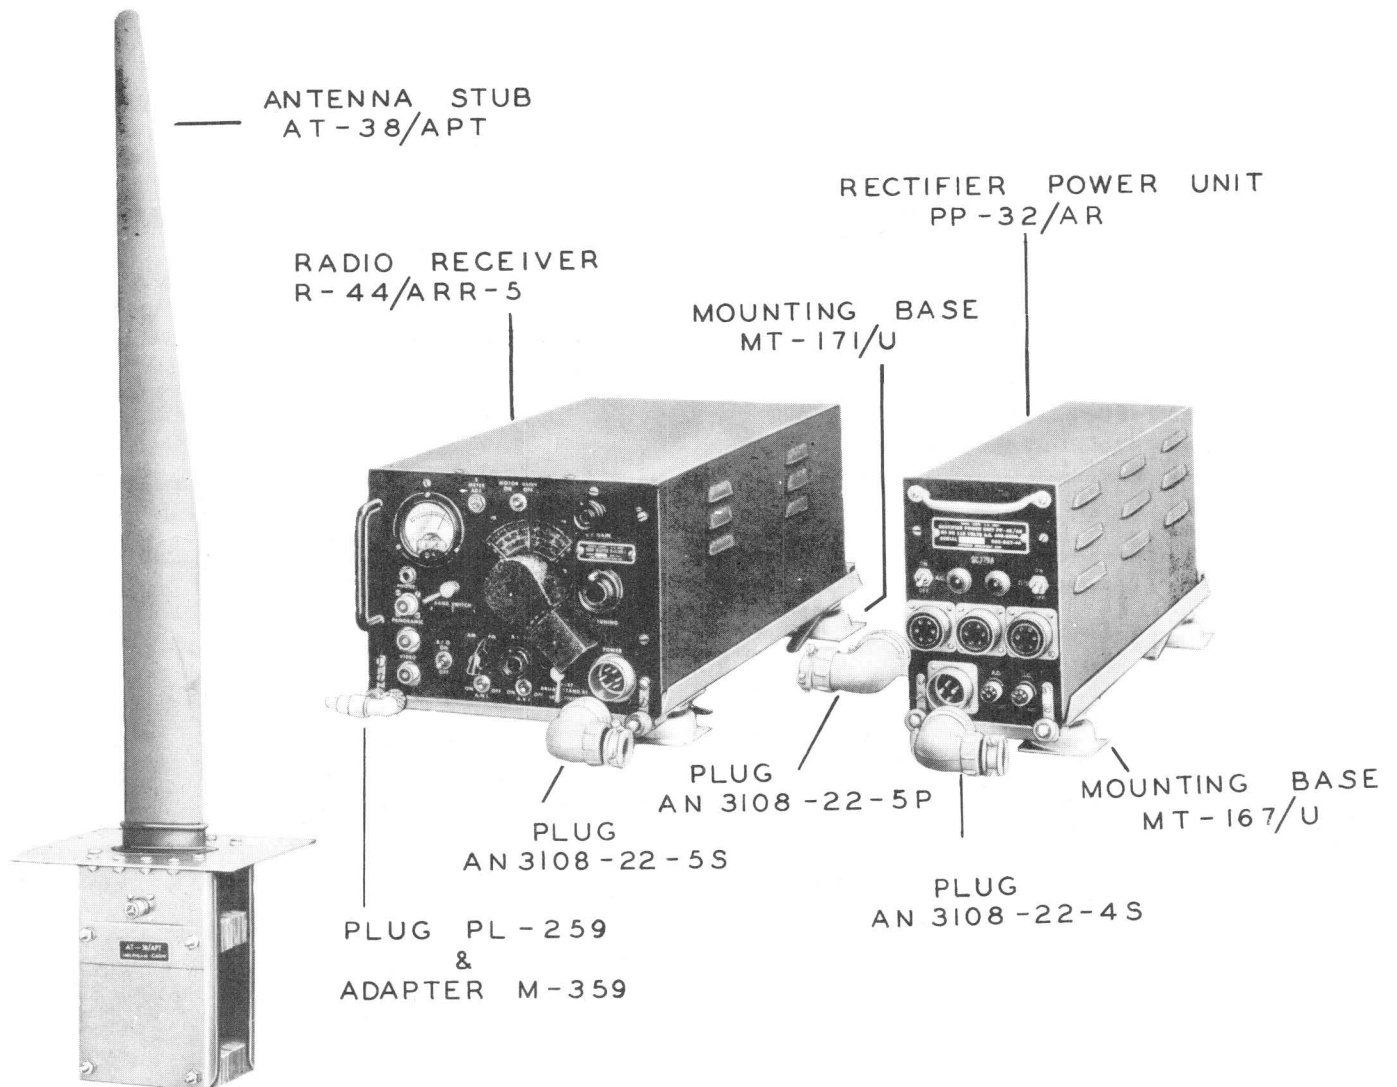

Figure 1-1. Radio Receiving Set AN/ARR-5—Major Components
a. Radio Receiving Set AN/ARR-5 (fig. 1-1) is an airborne search receiver intended to locate enemy radar radio frequency channels and communications equipment operating in the frequency range 27.8 to 143 megacycles. It may operate in conjunction with Radar Indicator Assembly AN/APA-6 or AN/APA-11, Panoramic Adapter AN/APA-10, and Photographic Adapter AN/APA-7.
e. Radio Receiving Set AN/ARR-5 consists of the following major units (see fig. 1-1):
(1) Radio Receiver R-44/ARR-5.
(2) Mounting Base MT-171/U, which provides mounting facilities for the receiver.
(3) Rectifier Power Unit PP-32/AR, which supplies the necessary power for the receiver and can supply power to two additional receivers with approximately the same power requirements.
(4) Mounting Base MT-167/U, which provides a mounting for the rectifier power unit.
(5) Antenna Stub AT-38/APT or (Antenna Stub AT-38A/APT). The type of antenna used is not critical; any antenna approximately 30 inches in length is satisfactory.
(6) Antenna AT-190A/AP, which is 25 inches in length.
(7) Antenna Base AB-109B/AP, which is provided for mounting Antenna AT-190A/AP.
(8) Antenna Adapter MX-923/A, which is mounted on Antenna Base AB-109B/AP, and provides a termination for the radio-frequency cable from the receiver.